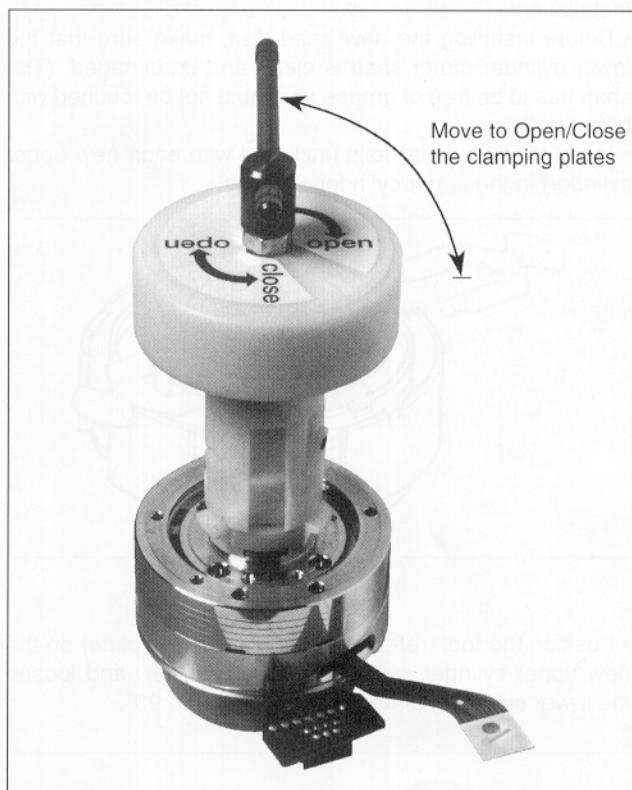

Fig. M4
- Position the upper tool's arm in the closed position, then place it on the upper clamping plate through the three holes. Turn the tool's arm 90° to the open position and remove the upper clamping plate from the upper cylinder (fig. M4).
- Position the tool evenly on the head disc, and fix the clamping element by bringing the arm to the "CLOSED" position (see fig. M4)